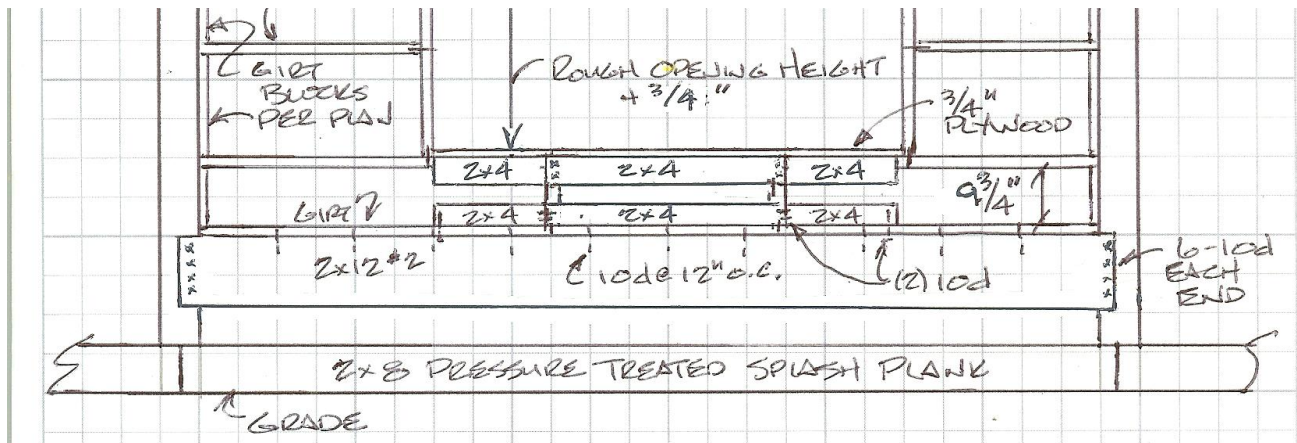

Figure 57-7: Angled 2x4 Below Lower Template
Cut eight (8) 2x4 to follow angled cut of plywood templates. Setting four aside, screw one at each end of previously installed 2x4 directly below plywood template angle cuts. Use (1) SDWS 16300 at an angles to end of existing 2x4, screw up through girt into lower 2x4, screw down through plywood into upper 2x4. **See Figure 57-7**